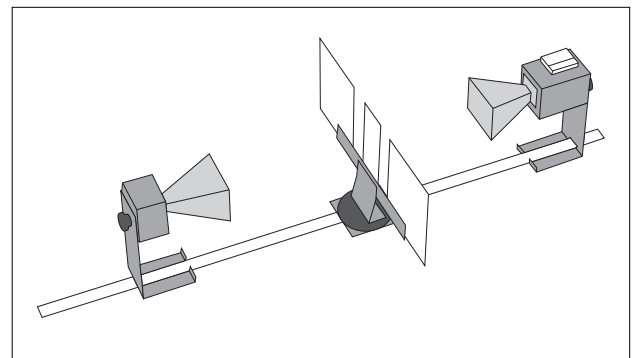

Figure 6.2 Equipment Setup
- ① Arrange the equipment as shown in Figure 6.2. Use the Slit Extender Arm, two Reflectors, and the Narrow Slit Spacer to construct the double slit. (We recommend a slit width of about 1.5 cm.) Be precise with the alignment of the slit and make the setup as symmetrical as possible.
- ② Adjust the Transmitter and Receiver for vertical polarization ( $0^\circ$ ) and adjust the Receiver controls to give a full-scale reading at the lowest possible amplification.
- ③ Rotate the rotatable Goniometer arm (on which the Receiver rests) slowly about its axis. Observe the meter readings.
- ④ Reset the Goniometer arm so the Receiver directly faces the Transmitter. Adjust the Receiver controls to obtain a meter reading of 1.0. Now set the angle  $\theta$  to each of the values shown in Table 6.1. At each setting record the meter reading in the table. (In places where the meter reading changes significantly between angle settings, you may find it useful to investigate the signal level at intermediate angles.)